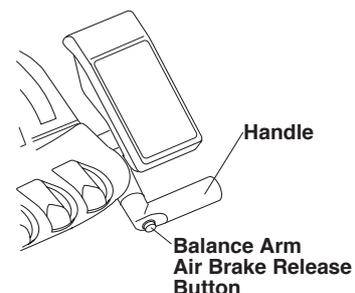

Fig.3-17 Balance Arm Air Brake
(6) Balance Arm Air Brake (Fig.3-17)